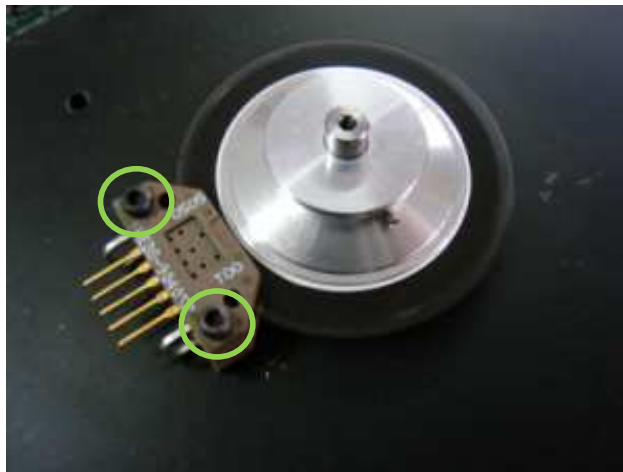

Figure 13.1-2
- Remove two M2.5mm cap socket head screws from static optical encoder module. (Figure 13.1-2)